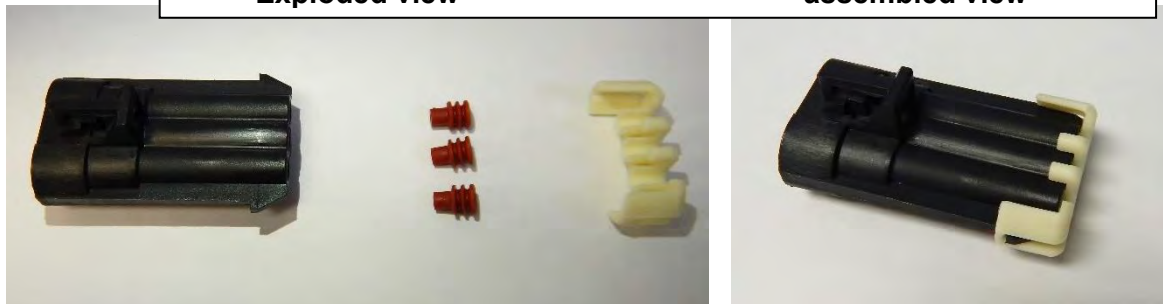

Figure 10b
4. **Figure 10b:** Secure the assembled protective cap (item 3) to the support reinforcement (item 4) using a 4.8mm x 8" long nylon tie wrap (item 2).
5. **Figure 10b:** Attach without tightening the electric extension harness (not included) (item 5) to the support reinforcement (item 4) using a 4.8mm x 8" lg nylon tie wrap (item 2a).
6. **Figure 10b:** Secure the extension electrical harness (item 5) to the metal tube using a 4.8mm x 8" lg nylon tie (item 2).